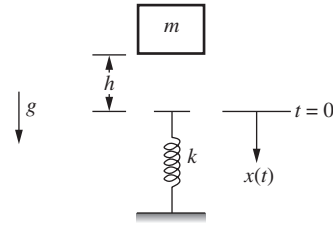

Figure P10.30 Mass dropped on a spring.
- 10-30.** A block of mass m is dropped from a height h above a spring k , as shown in Fig. P10.30. Beginning at the time of impact ($t = 0$), the position $x(t)$ of the block satisfies the following second-order differential equation and initial conditions: